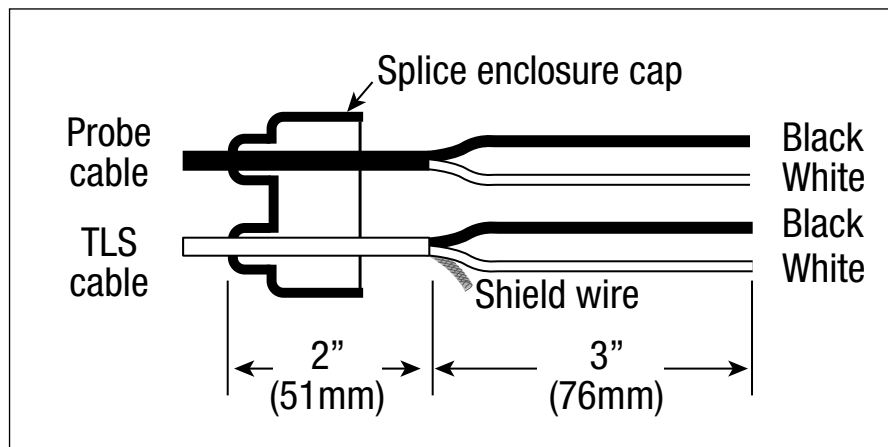

Figure 19. Splice Length Dimensions
2. Cut the soft vinyl epoxy enclosure end cap entrance holes to accommodate each cable diameter. Keep the hole sizes to a minimum. Insert about 127mm of each cable through the openings [Figure 19]. Remove 76mm of the outer jacket from each cable. Trim the insulation from the conductors.